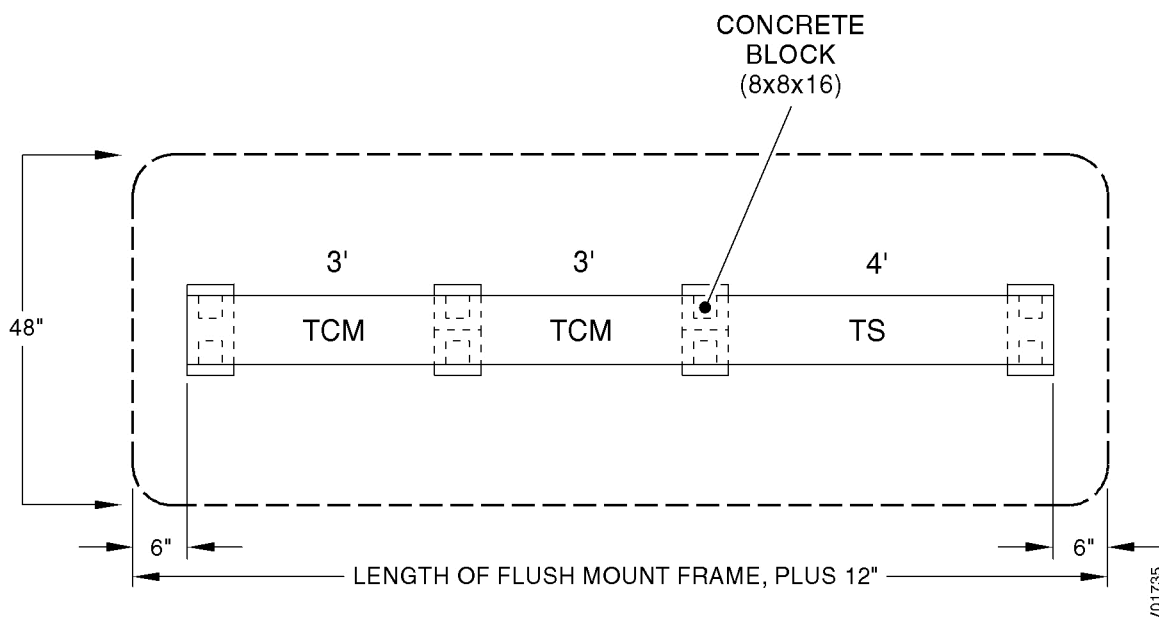
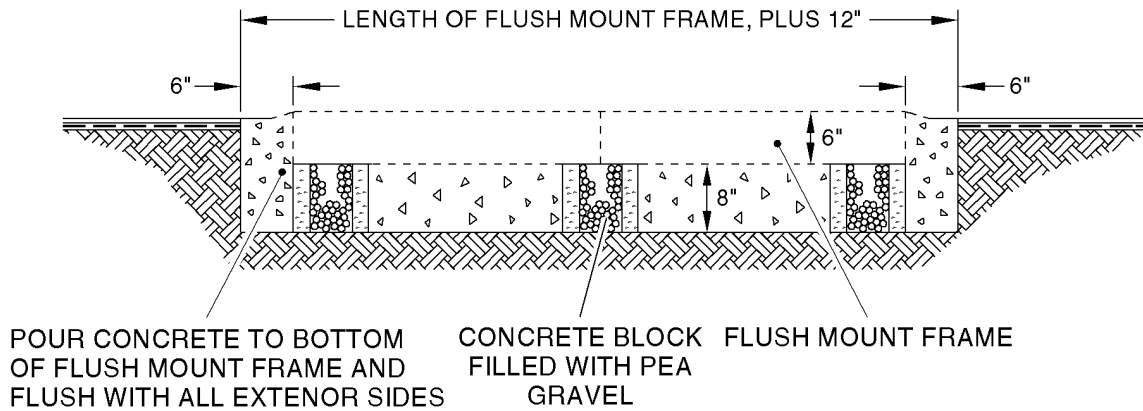

Figure 3-3. Installation CS72-HTC-FM Top View
Figure 3-4. Installation CS72-HTC-FM Horizontal View
6. Excavate a trench approximately 48 inches wide by 13 inches deep. The trench length is dependent on the length of the flush-mount frame utilized in the system. Allow an additional 6 inches at each end of the flush-mount frame (Figure 3-3) for clearance.
7. Place a concrete block (8x8x16) into the trench and position one at the end of each TCM and one at the end of the Tunnel Section (Figure 3-3 and Figure 3-4).